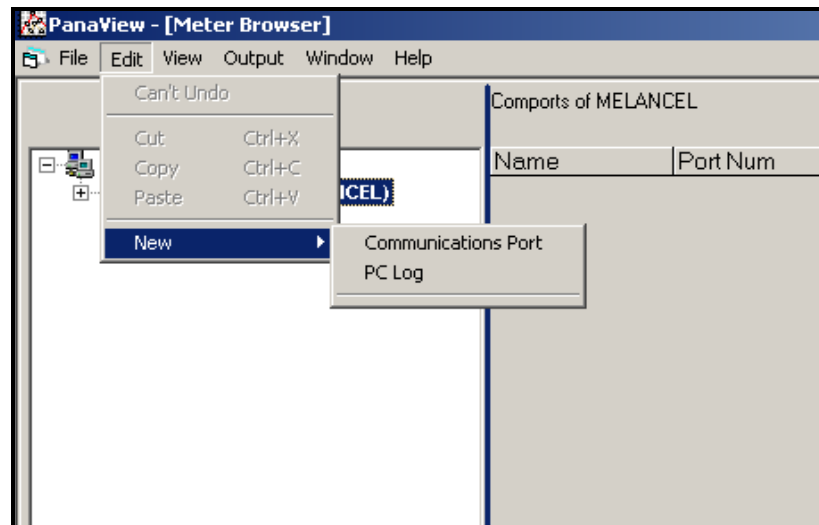

Figure C-1: The Edit Menu
3. Click on the “*New*” menu option to select it, and a submenu opens with two choices on it (see Figure C-1 below).